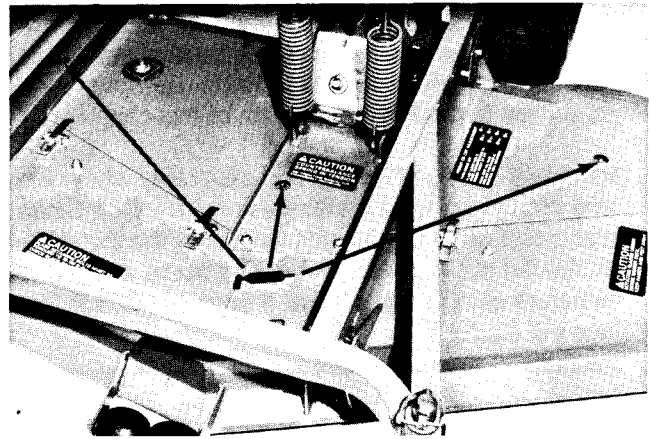

Figure 5
Grease the three (3) blade spindles after every 25 hours of operation (one grease fitting per spindle) (Fig. 5). Use No. 2 general purpose lithium base grease.